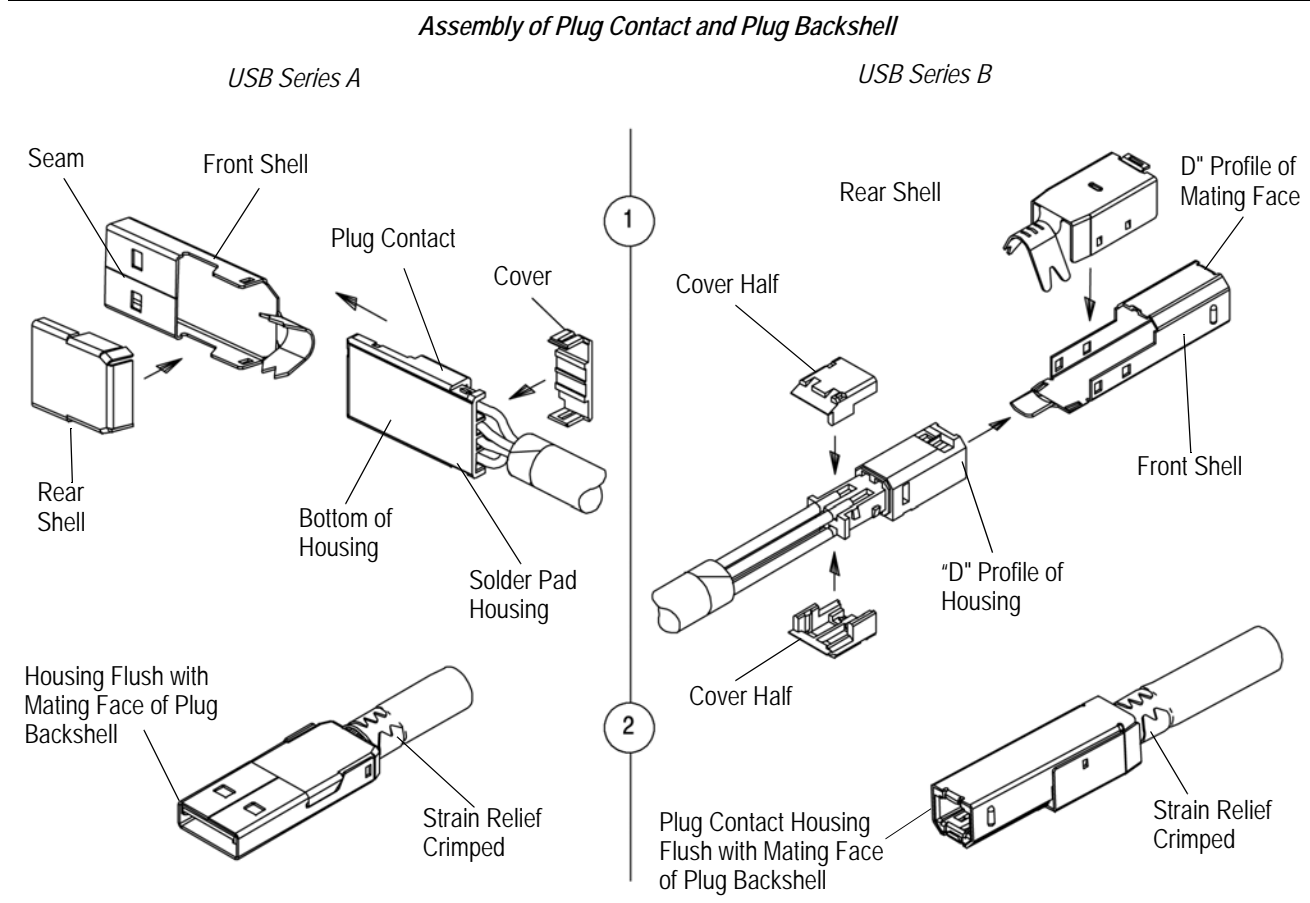

Figure 7
A. Plug Contact and Plug Backshell (Figure 7)